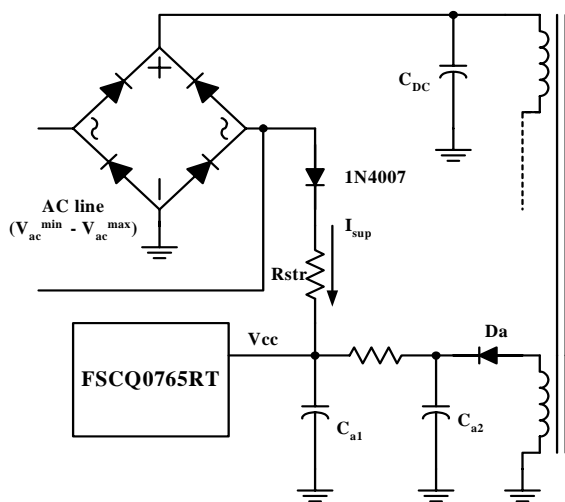
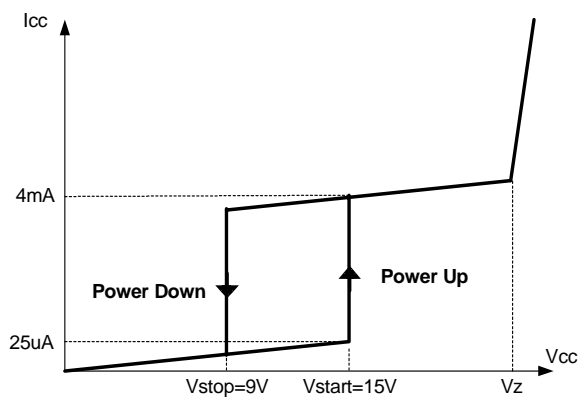

Figure 4. Startup circuit
Figure 5. Relation between operating supply current and Vcc voltage
1. Startup : Figure 4 shows the typical startup circuit and transformer auxiliary winding for FSCQ0765RT application. Before FSCQ0765RT begins switching, FSCQ0765RT consumes only startup current (typically 25uA) and the current supplied from the AC line charges the external capacitor (Ca1) that is connected to the Vcc pin. When Vcc reaches start voltage of 15V (V_{START}), FSCQ0765RT begins switching, and the current consumed by FSCQ0765RT increases to 4mA. Then, FSCQ0765RT continues its normal switching operation and the power required for this device is supplied from the transformer auxiliary winding, unless Vcc drops below the stop voltage of 9V (V_{STOP}). To guarantee the stable operation of the control IC, Vcc has under voltage lockout (UVLO) with 6V hysteresis. Figure 5 shows the relation between the FSCQ0765RT operating supply current and the supply voltage (Vcc).